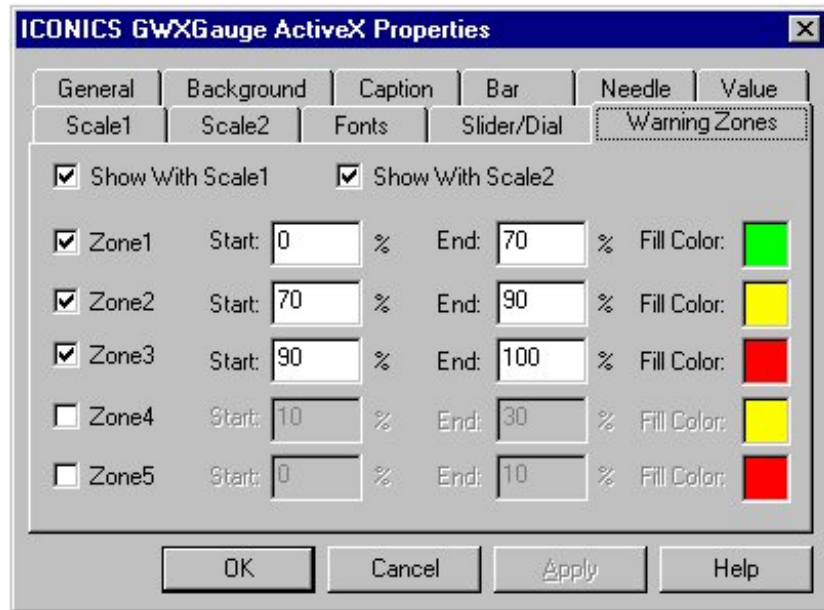

Figure 15-14: GWXGauge ActiveX Properties Dialog Box: Warning Zones Tab
2. Select the Warning Zones tab (Figure 15-14).